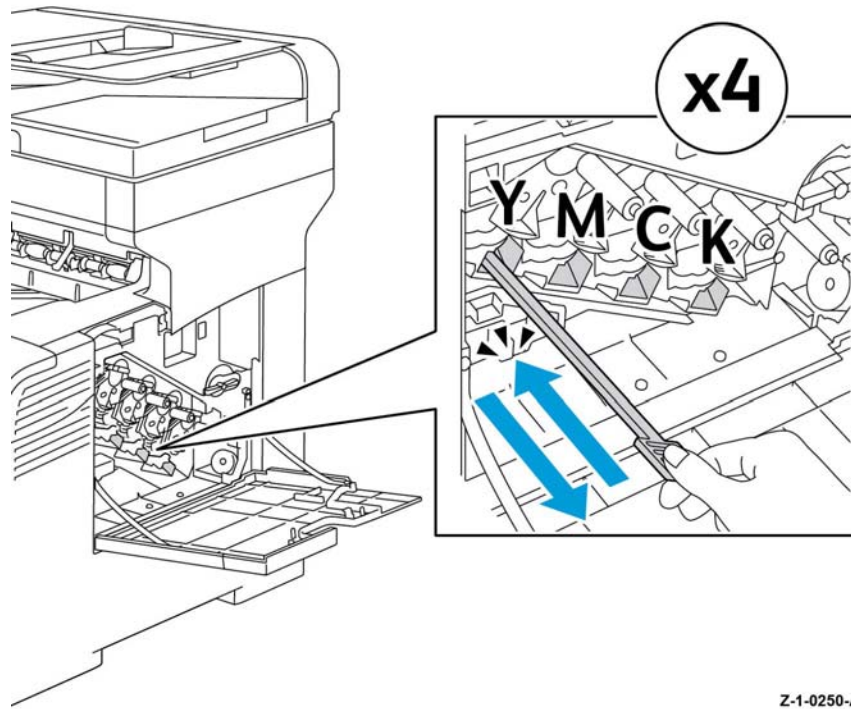

Figure 2 Cleaning the lenses
4. Insert the lens cleaner assembly into the cleaning hole of one of the 4 CRU xerographic development assemblies until it clicks, Figure 2.
5. Slide the lens cleaner assembly back to front, it's full extent, inside the CRU xerographic development assembly, 2 or more times, Figure 2.